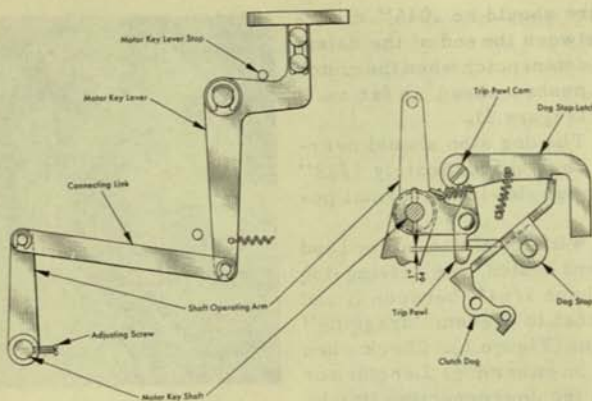

Figure 8
8. Position the motor key shaft in the hub of the operating arm on the left end of the motor key shaft so that the dog trip latch is under the dog stop by approximately $1/64''$ with the clutch latched up (Figure 8, page 6).